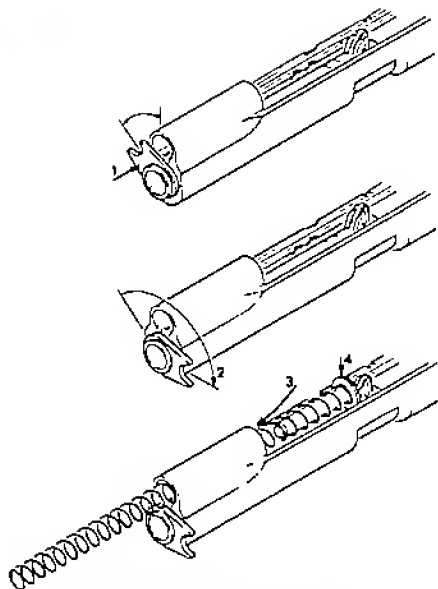

FIGURE 9—INSTALLING BARREL BUSHING AND RECOIL SPRING/S
2. (See Figure 9). Place barrel bushing over muzzle of barrel and into slide until it is flush with the face of the slide, (STEP 1). Turn bushing clockwise as far as it will go, (STEP 2).